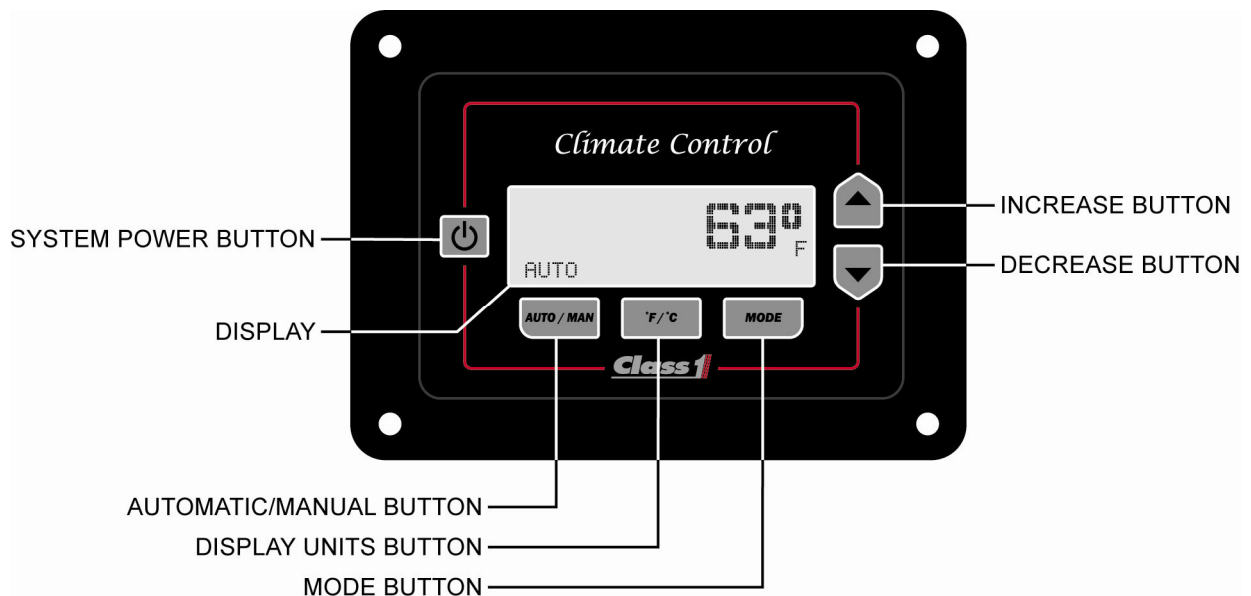

Figure 1. Climate Control Display identification
The Climate Control Display (**Figure 1**) has a display (4 lines, 20 characters each) and six (6) buttons.